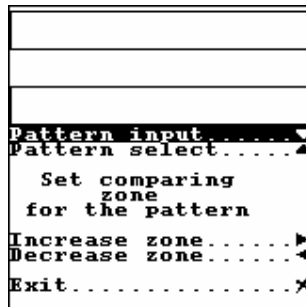

Fig. 67
6. Initially, a signal oscillogram from a flawless zone should be taken, which will be used as a pattern to compare it with the signal oscillogram received from the object under testing. To get the pattern oscillogram press the Shift key (select pattern function). The device displays the oscillogram input submode (Fig. 67).